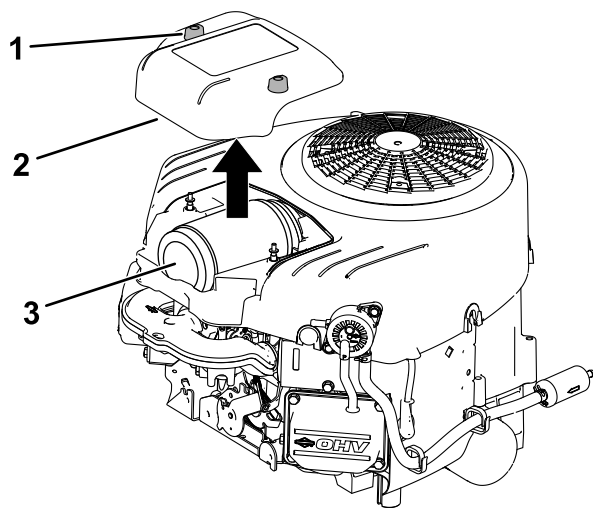

Figure 37
3. Install the cover and tighten the fasteners (Figure 37).